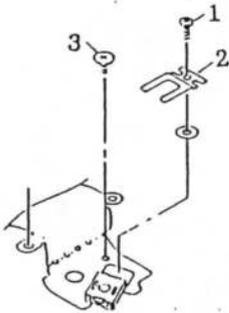

Fig.14
- (1) Take off two SCREWS (No.1) and remove the HOLDER (No.2).
- (2) Take off two SCREWS (No.3) and remove the PRISM COVER (No.4), then remove the PRISM (No.5).
11. Upper base plate (Fig.14,15)